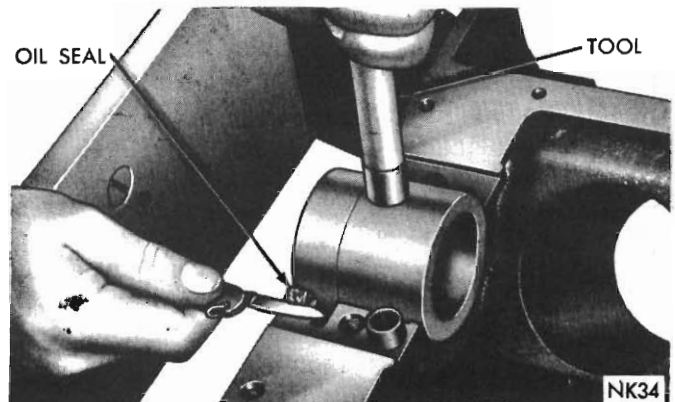

Fig. 40 - Trimming rear main upper oil seal
(3) Hold tool in this position and cut off the portion of seal that extends above the block on both sides. (Fig. 40).